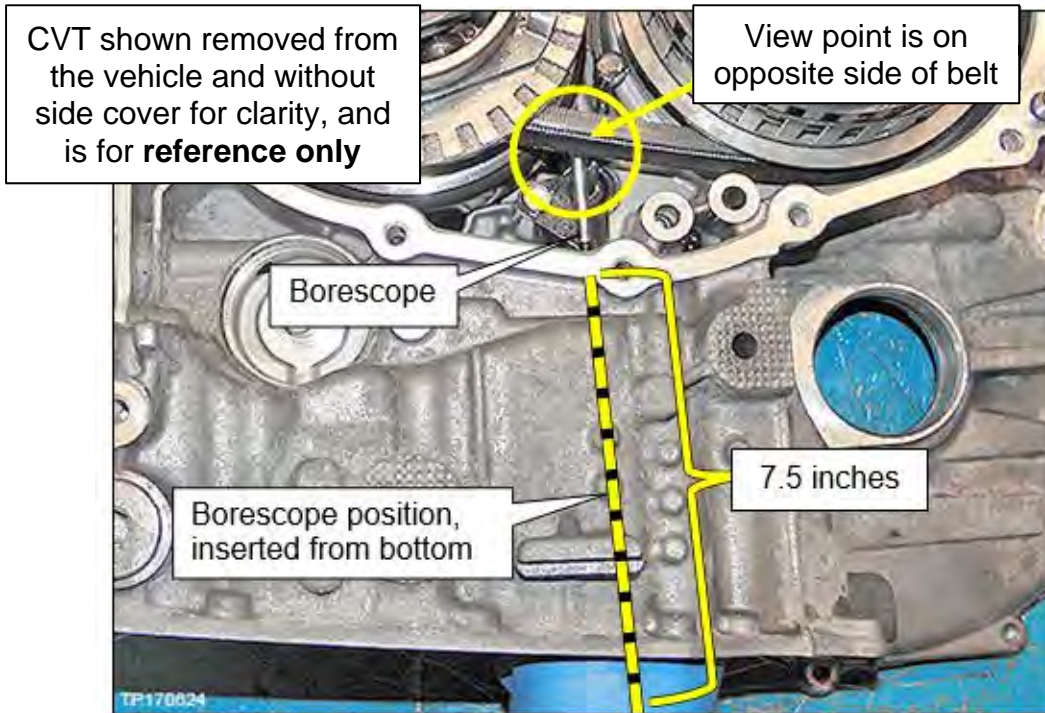

Figure 34
- ii. Insert the lens approximately 7.5 inches from the CVT oil pan gasket surface as shown in Figure 34 on page 22.